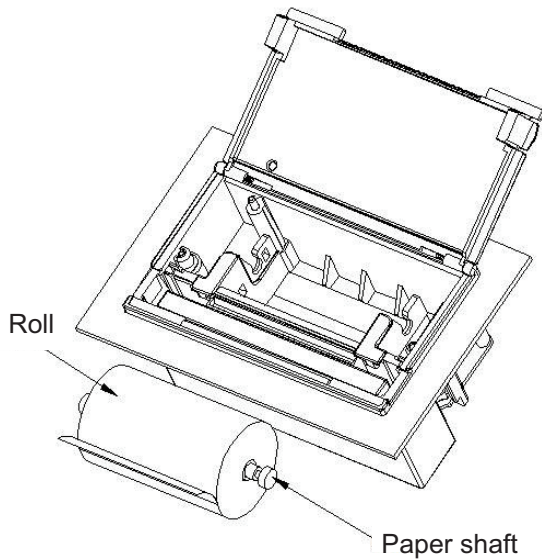

Fig. 2-4
(3) Load the paper roll into the paper shaft according to the direction shown in Figure 2-4, hold both ends of the paper shaft, put the paper roll into the paper compartment, loosen the paper shaft and clamp it tightly.